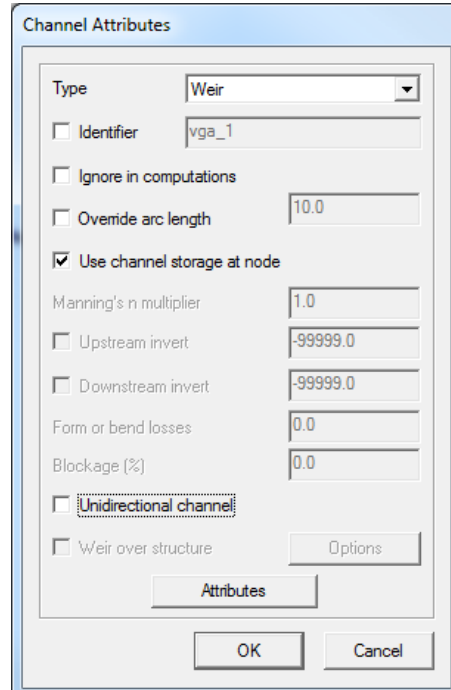

Figure 6 Channel Attributes dialog
3. Change the *Type* to “Weir” The dialog should look like Figure 6.